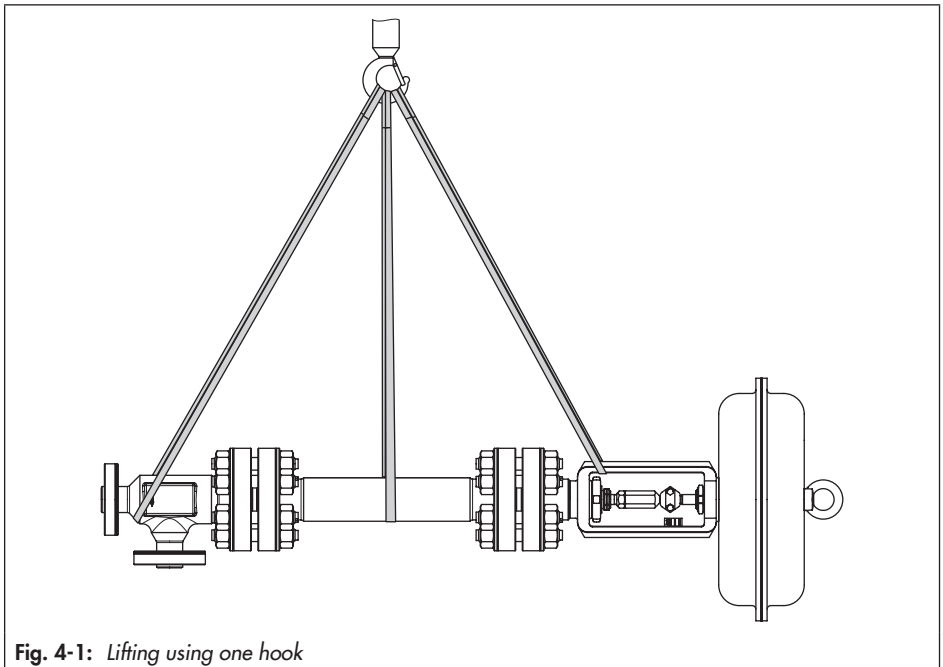
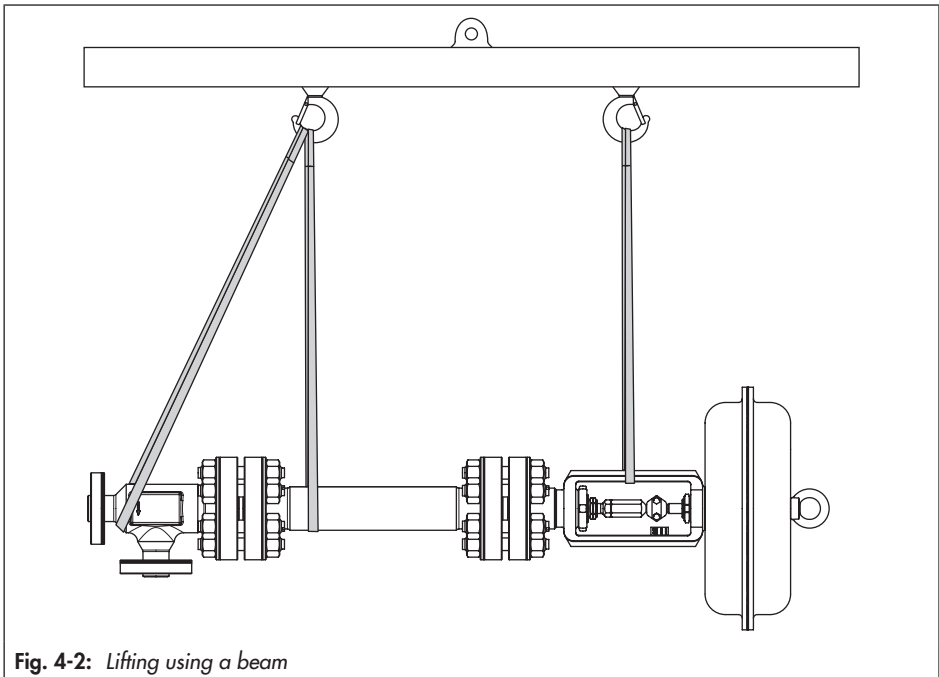

Fig. 4-1: Lifting using one hook
Fig. 4-2: Lifting using a beam
- Use a hook with safety latch (see Fig. 4-1) to secure the slings from slipping off the hook during lifting and transporting.
The control valve can be lifted in the horizontal position either using one hook (Fig. 4-1) or using several hooks on a beam (Fig. 4-2).
rigging equipment (e.g. hook) of the crane or forklift (see Fig. 4-1 and Fig. 4-2).